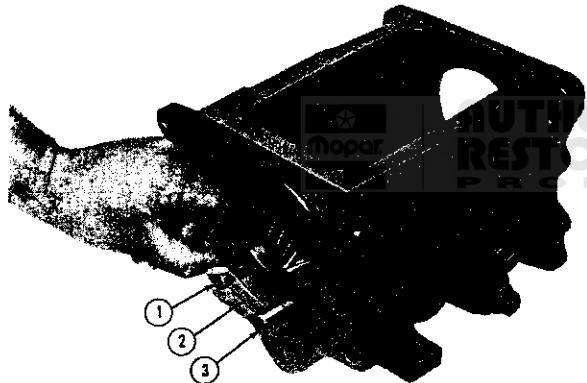

FIG. J-19--REMOVING-INSTALLING LOCKPLATE
- i. Remove the lockplate by tapping lightly on the front end of the countershaft and reverse idler shaft. Remove lockplate from slots in shafts. Refer to Fig. J-19.
a. Position reverse idler gear with Arbor Tool W-336, roller bearings, and thrust washers in the case. Install reverse idler shaft forcing out Tool W-336. Make certain the slot end of the idler shaft is correctly aligned to receive the lockplate. Refer to Fig. J-19.